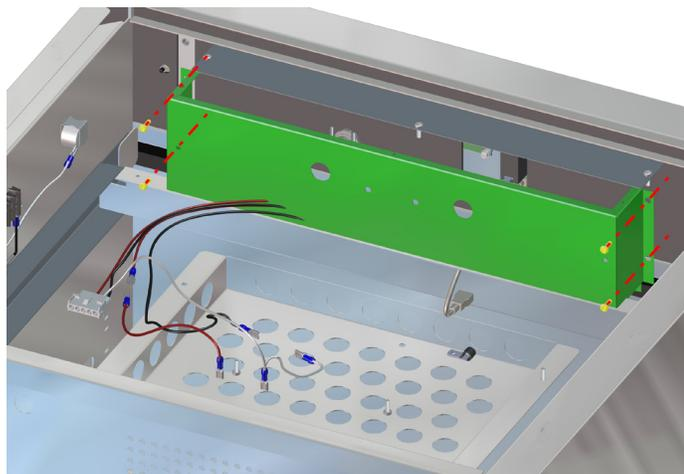

Fig. 7: Remove box
8. Then remove the box (Fig. 7 - shown in green) and set it aside for later re-attachment.